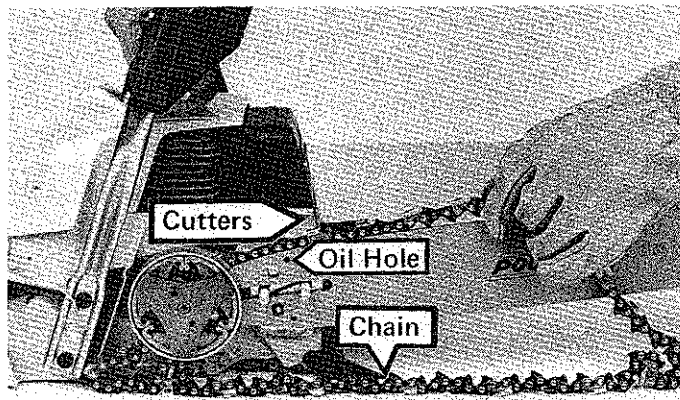

Figure 4
4. Place the chain over the sprocket and engage the drive link tangs between the sprocket teeth. (Note the direction of the chain teeth.) Starting at the top of the bar, gradually work the chain into the groove of the bar until all the drive links are engaged in the bar groove. FIGURE 4.